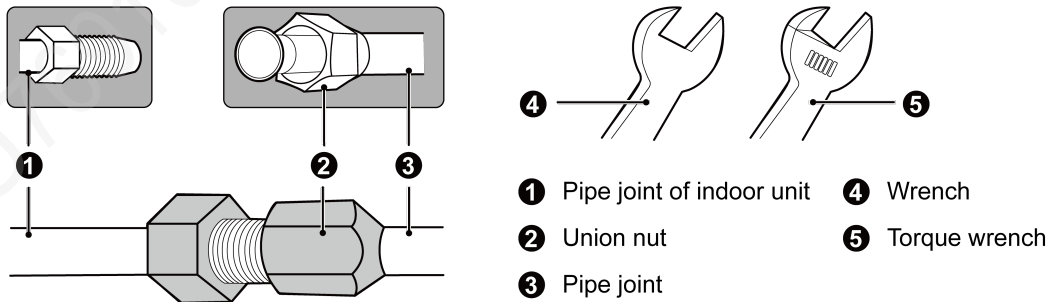

Fig 4.6
- (1) Direct the flaring of copper pipe to the center of screwed connection and then screw the flaring nut tight as shown in Fig 4.6.
- (2) Use a torque wrench to tighten up the flaring nut until the wrench gives out a click sound.